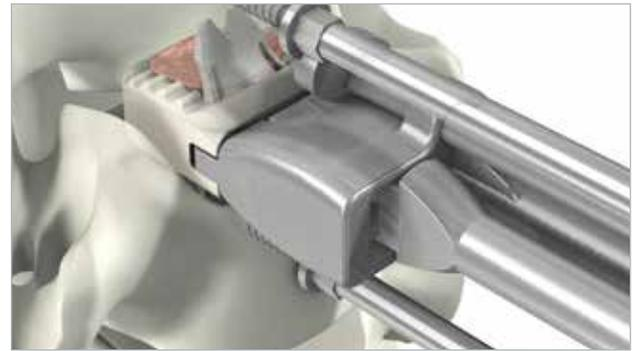

Figure 17
- Confirm position under radiographic imaging, then use the #2 impactor to finish advancing the plate (Figure 17). The plate is fully advanced when the mechanical stop on the impactor meets the mechanical stop of the implant holder.